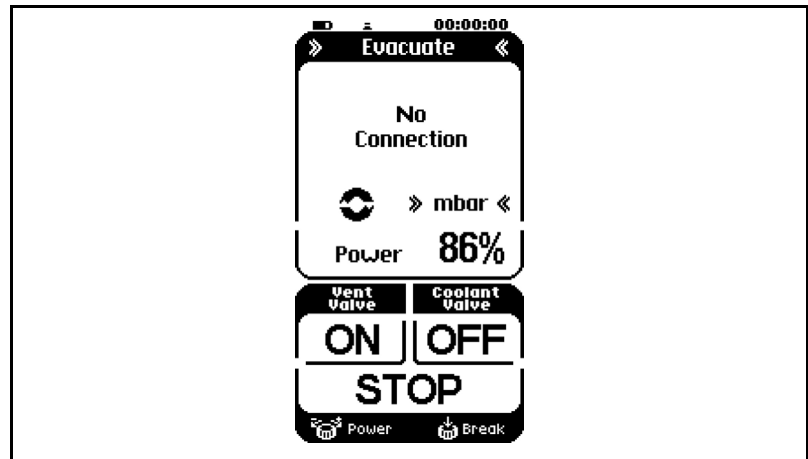

Fig. 15: Display „No connection“
- The message "No connection" will blink in the hand terminal's display (see Fig. 15);